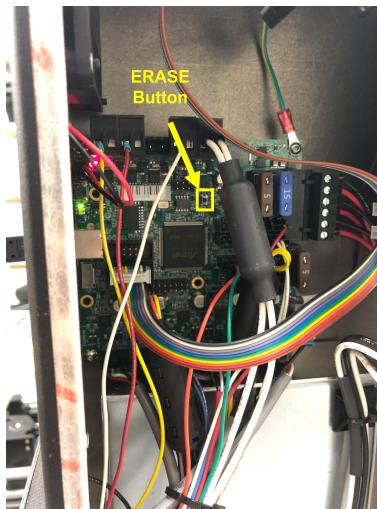

Fig. 1. Location of the ERASE button.
3. Hold the ERASE button, shown in Fig. 1, for 1 second to clear the EEPROM memory (this switches the board from "Operating Mode" to "Uploading Mode").